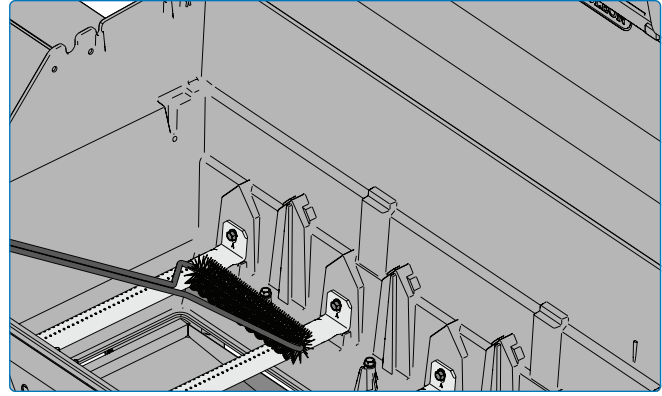

Fig. 22
5. Sweep all remaining debris from inside the grill into the drip pan (**Fig 22,23**).